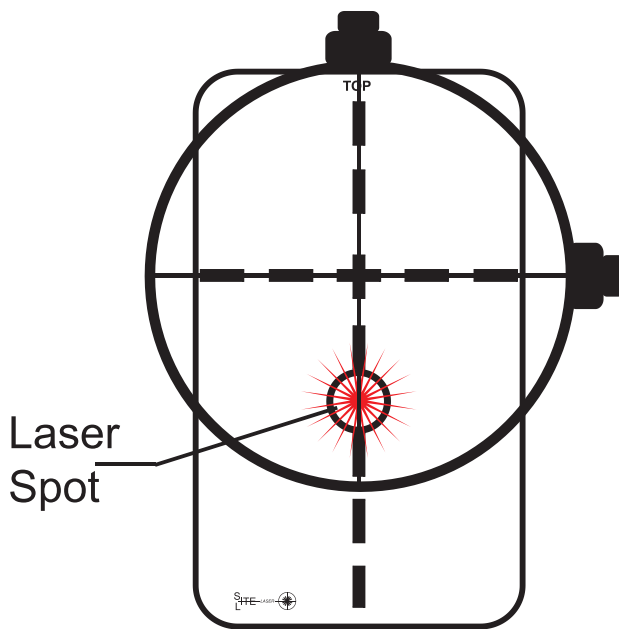

Fig. 1
4. Set the scope at low power and switch on the boresighter. Adjust the position of the firearm to center the laser within the "Laser Target" located below the dotted line crosshair on the target (See Fig. 1.)
5. Insure that the firearm does not move and that the laser remains centered in the target while making adjustments. Adjust the scope crosshairs or other type sights to align as shown in Fig. 1 & 2
- Rotate the scope & adjust the windage to align the crosshair with the laser line. (Fig. 1)